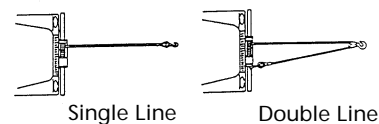

Figure 1
1. THE HUSKY 8500 winch is rated at 8,500 pounds capacity. **DO NOT OVERLOAD. DO NOT ATTEMPT PROLONGED PULLS AT HEAVY LOADS. DO NOT MAINTAIN POWER TO THE WINCH IF THE MOTOR STALLS.** Overloads can damage the winch and/or the wire rope and create unsafe operating conditions. FOR HEAVY LOADS, WE RECOMMEND THE USE OF THE OPTIONAL PULLEY BLOCK AND HOOK ASSEMBLY (PART NO. 7750A) TO DOUBLE LINE THE WIRE ROPE (FIG. 1). This reduces the load on the winch and the strain on the wire rope by approximately 50%. If attaching back to vehicle, attach to the frame or other load bearing part. The vehicle engine should be running during winch operation to minimize battery drain and maximize winch power and speed. If considerable winching is performed with the engine off, the battery may be too weak to restart the engine.